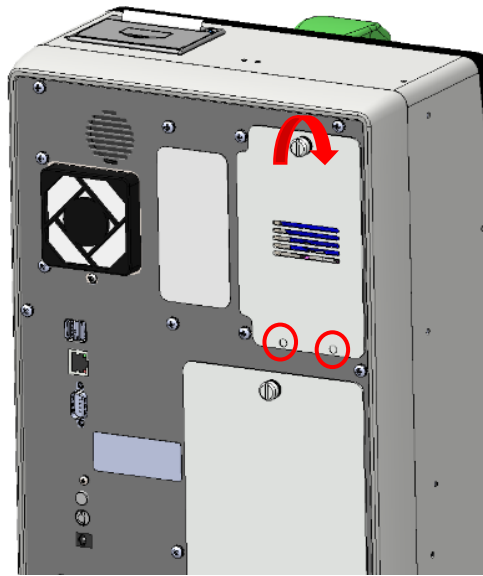

Figure 9
11. Reinstall the Wash Pump Access Door in the cavities highlighted (keyed slots inside for tabs) and turning thumb screw clockwise. See Figure 9.